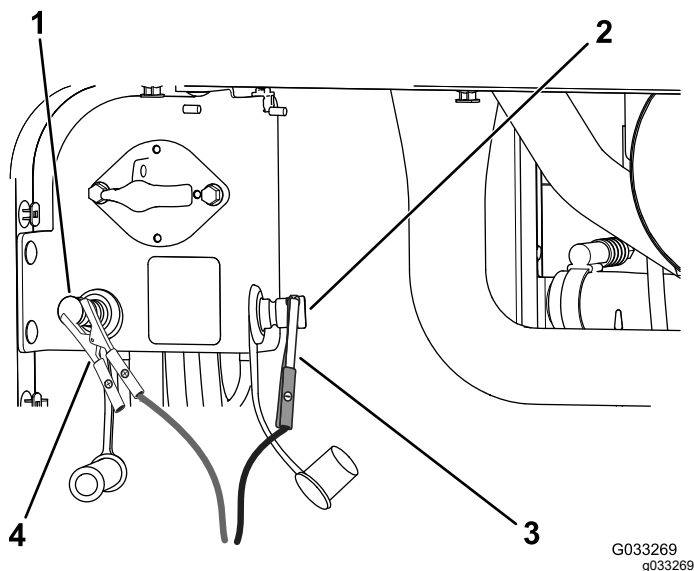

Figure 110
4. Connect the positive lead of the battery charger to the positive jump post (Figure 110).
5. Connect the negative lead of the battery charger to the negative jump post (Figure 110).
7. When the batteries are fully charged, unplug the charger from the electrical source, then disconnect the charger leads from the jump posts (Figure 110).